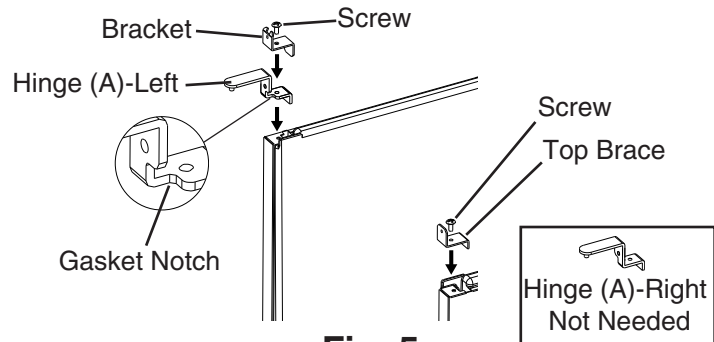

Fig. 5
- c) Remove hinge (A)-right and the bracket from the right side of the unit. Set aside hinge (A)-right; it is not needed. Remove the top brace from the left side. Fasten hinge (A)-left and the bracket to the left side and the top brace to the right side. See Fig. 5.